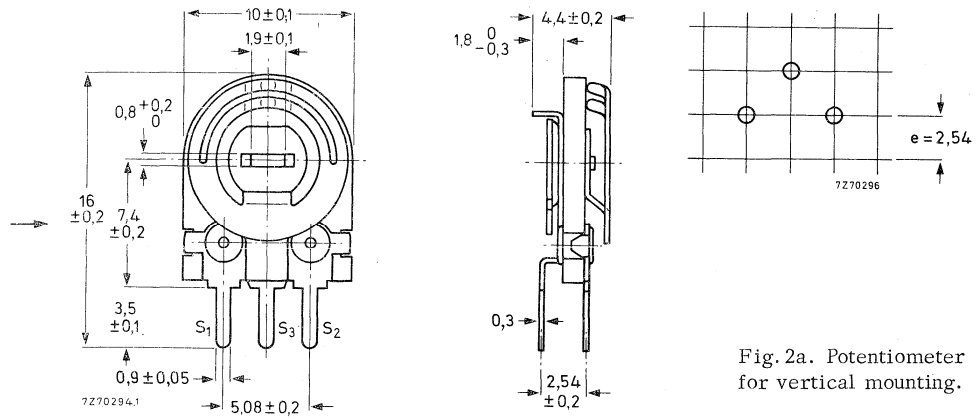

Fig. 2a. Potentiometer for vertical mounting.
- 30 = potentiometer for vertical mounting (Fig. 2a)